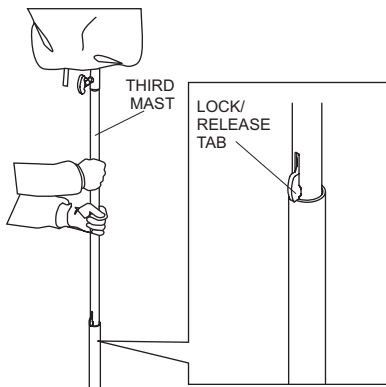

Figure 23. Raising the Third Mast
2. To raise the mast higher, raise the third mast until the lock/release tab pops out. The tab will automatically rest on the second mast. See Figure 23.